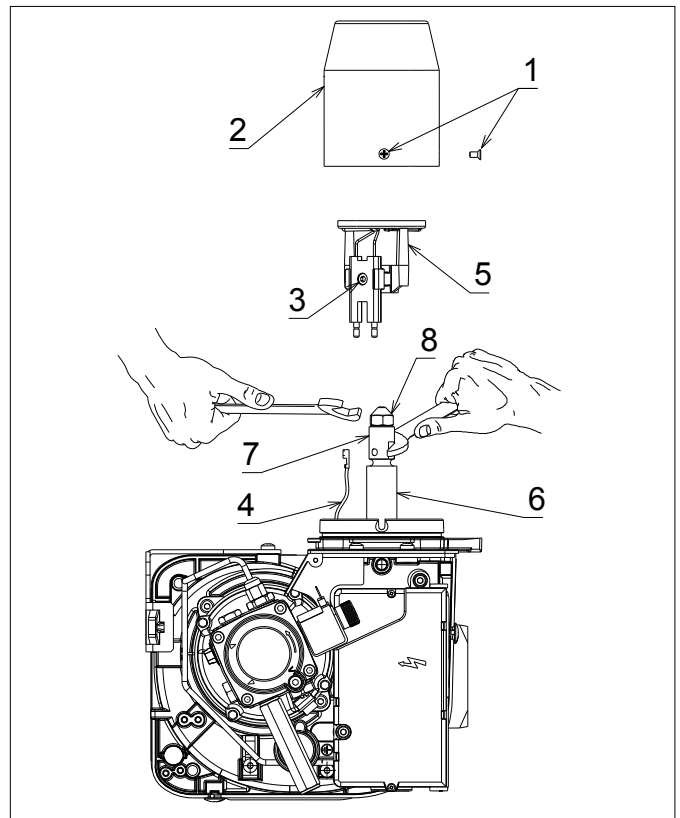
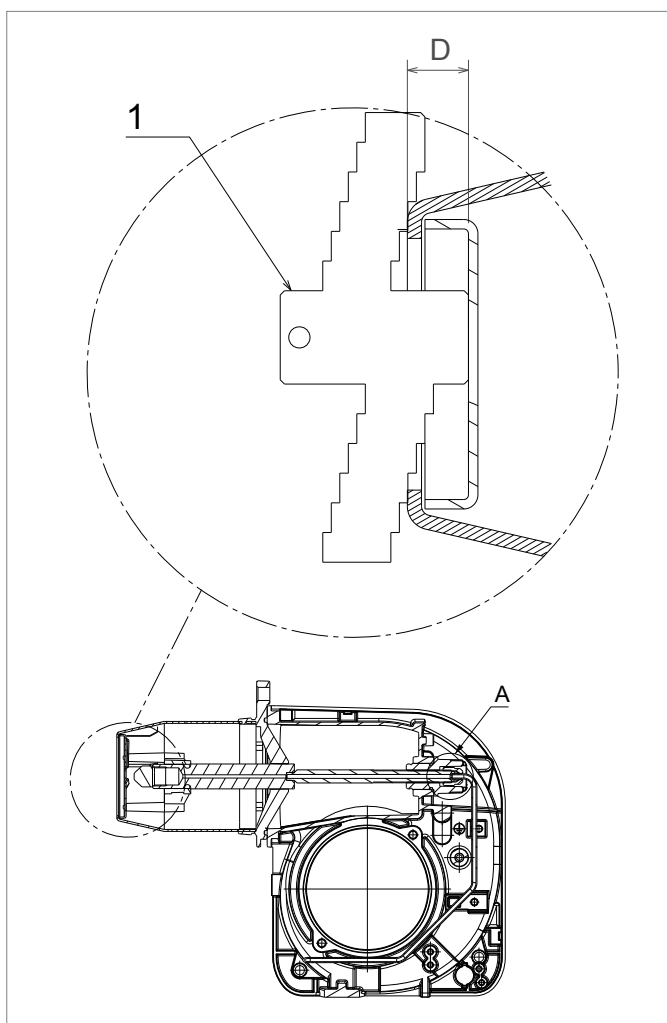

Figure 10-3: Burner head, diffuser and nozzle holder
Figure 10-5: Riello RDB 2.2 BX diffuser position and gauge plate
1. Remove the burner head. Refer to Figure 10-3. Loosen the three fixing screws (1) and remove head (2) from burner.
3. If the nozzle needs to be replaced - remove the diffuser/electrode assembly. Refer to Figure 10-3.
- Using a 4 mm Allen key, loosen the diffuser fixing screw (3) on the electrode assembly.
- Lift diffuser/electrode assembly (5) up and off the nozzle holder.
- Disconnect both ignition leads (4) from the electrodes.
4. Use a 16 mm spanner to remove/re-fit the nozzle (8), whilst holding the nozzle holder (6) using a 19 mm spanner.
5. Re-fit the diffuser/electrode assembly. Refer to Figure 10-3.
- Reconnect ignition leads (4) to electrodes.
- Re-fit the diffuser/electrode assembly (5) onto the nozzle holder lining up the fixing screws with the recess in the nozzle holder.
- Tighten the fixing screw (3) to secure the diffuser/electrode assembly in place on the nozzle holder.
7. Re-fit the burner head. Refer to Figure 10-3.
- Locate the head fixing screws (1) in the countersunk slots in the burner collar.
- Tighten the three screws (1) to secure the head (2) in position on the burner.
8. Adjust the diffuser position. Refer to Figure 10-5.
- Position the gauge plate on the burner head as shown in Figure 10-5.
- If necessary, adjust distance D using the black adjustment knob located around the oil supply pipe on the front of the burner. Refer to item A (Figure 10-5). Re-check distance D using the gauge plate, as described above.